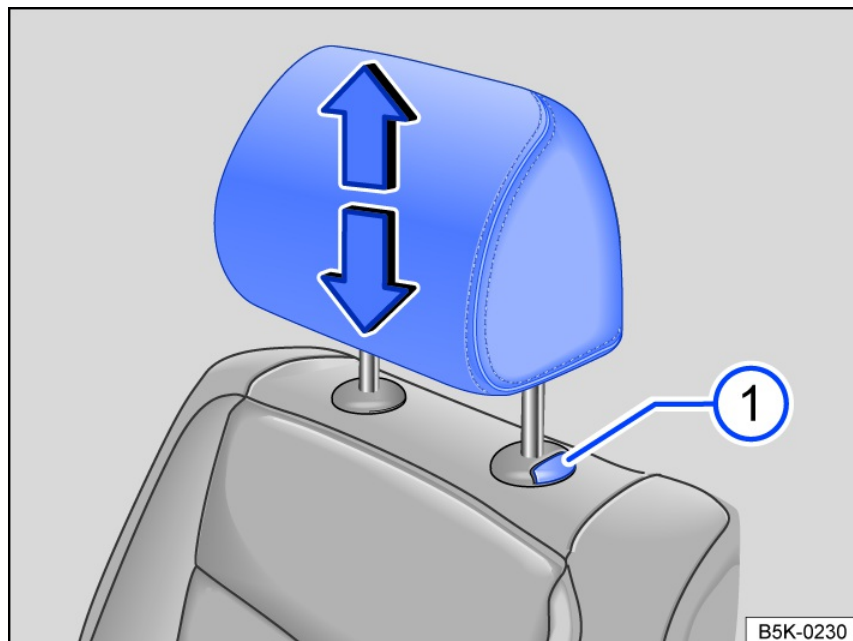
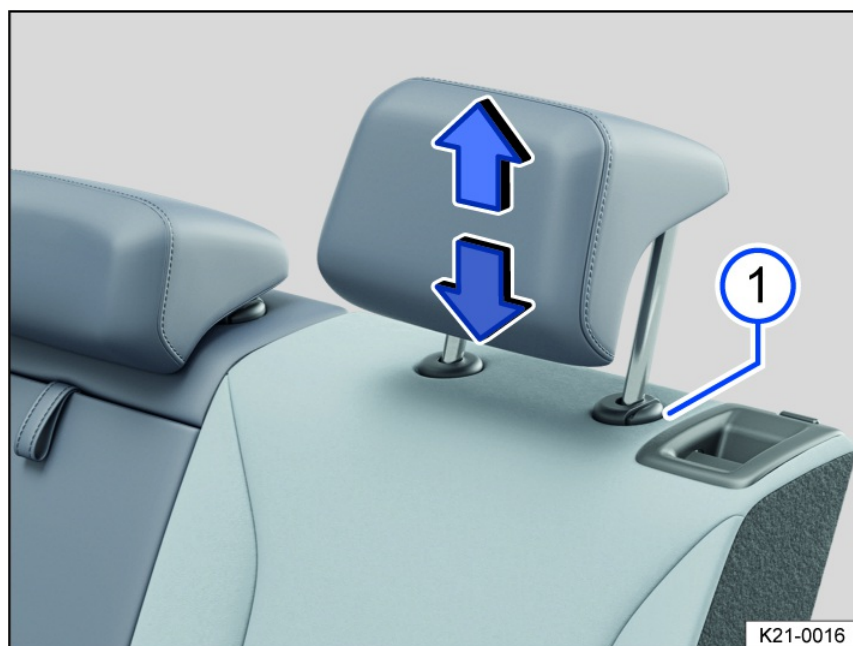

Fig. 66 Front head restraint: adjusting.
Fig. 67 Rear head restraint: adjusting (general example).
1. If necessary, slide the head restraint upward or downward in the direction of the arrow and when pressing the fig. 66 or fig. 67 button.